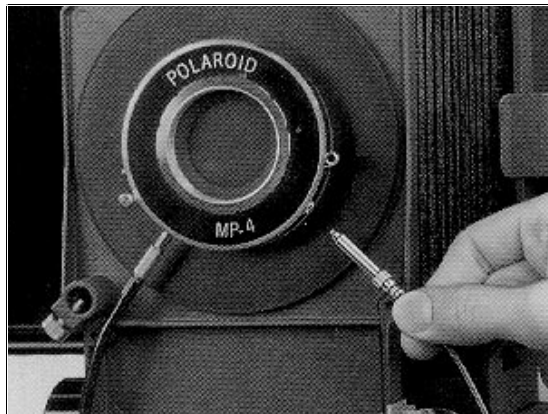

Figure 2-24. Attaching Pre-View Cable to Shutter
b. Connect the long "pre-view" cable release. Do this with the camera head in the picture taking position (pushed all the way to the right). Screw the release into the "pre-view" socket on the shutter (figure 2-24).